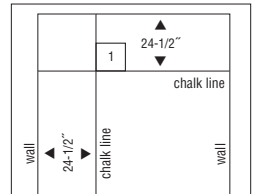

Figure 7
- **PROPER PLACEMENT OF THE FIRST FLOOR TILE IS THE KEY TO THE ENTIRE INSTALLATION.** Carefully place a 12" x 12" (30.5 cm x 30.5 cm) parquet tile at the intersection of the two chalk lines (Figure 7). Do not use the edge of the tongue for aligning the tile on the chalk lines.